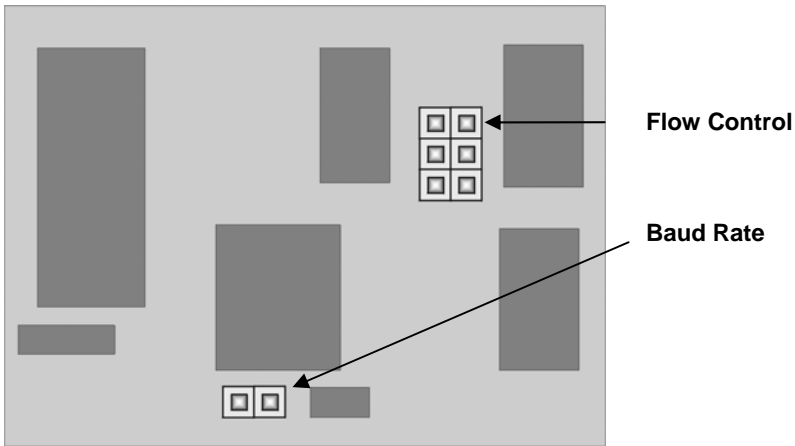

Figure 10 Position of Baud Rate and Flow Control jumper blocks on Serial Daughter Board
3. Lift off the top cover. There are six serial daughter boards for each port in the Local Hub. Locate the *Baud* jumper posts on the appropriate serial daughter board (see Figure 10).
The circuit board has several jumper blocks in addition to those shown in Figure 10. Do not adjust any of these settings, as you will cause the extender system to operate incorrectly.
The serial daughterboards in both Local Hub and Remote Units have a series of jumpers that allow the selection of alternative hardware flow control schemes across the CATx link (see Figure 10). Most applications will not require hardware flow control across the link, and therefore the flow control jumpers are set to loopback by default and should not need adjustment.